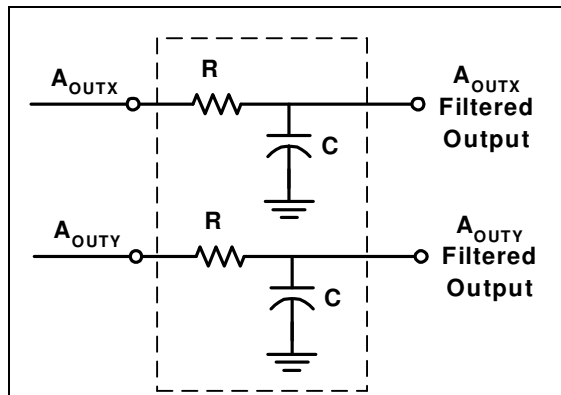

Figure 4: Low Pass Filter
**NOTE: When designing with MEMSIC ratiometric output accelerometers (MXRxxxx series), it is highly recommended that an external, 20 Hz low pass filter be used to eliminate internally generated periodic noise that is coupled to the output of the accelerometer.** The low pass filter shown in Figure 4 has a -3dB breakpoint given by the equation:  $f = \frac{1}{2\pi RC}$ . For the 200 Hz ratiometric output device filter, C=0.1µF and R=8kΩ, ±5%, 1/8W.